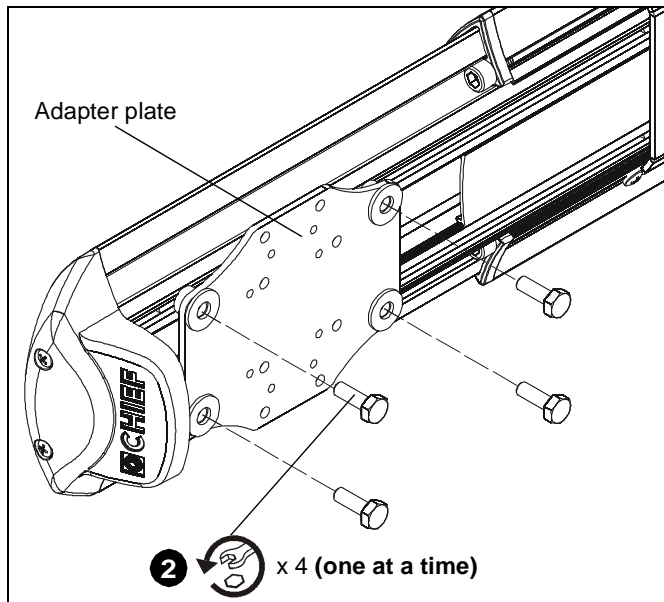

Figure 48
- Remove one of four bolts from adapter plate. (See Figure 48)